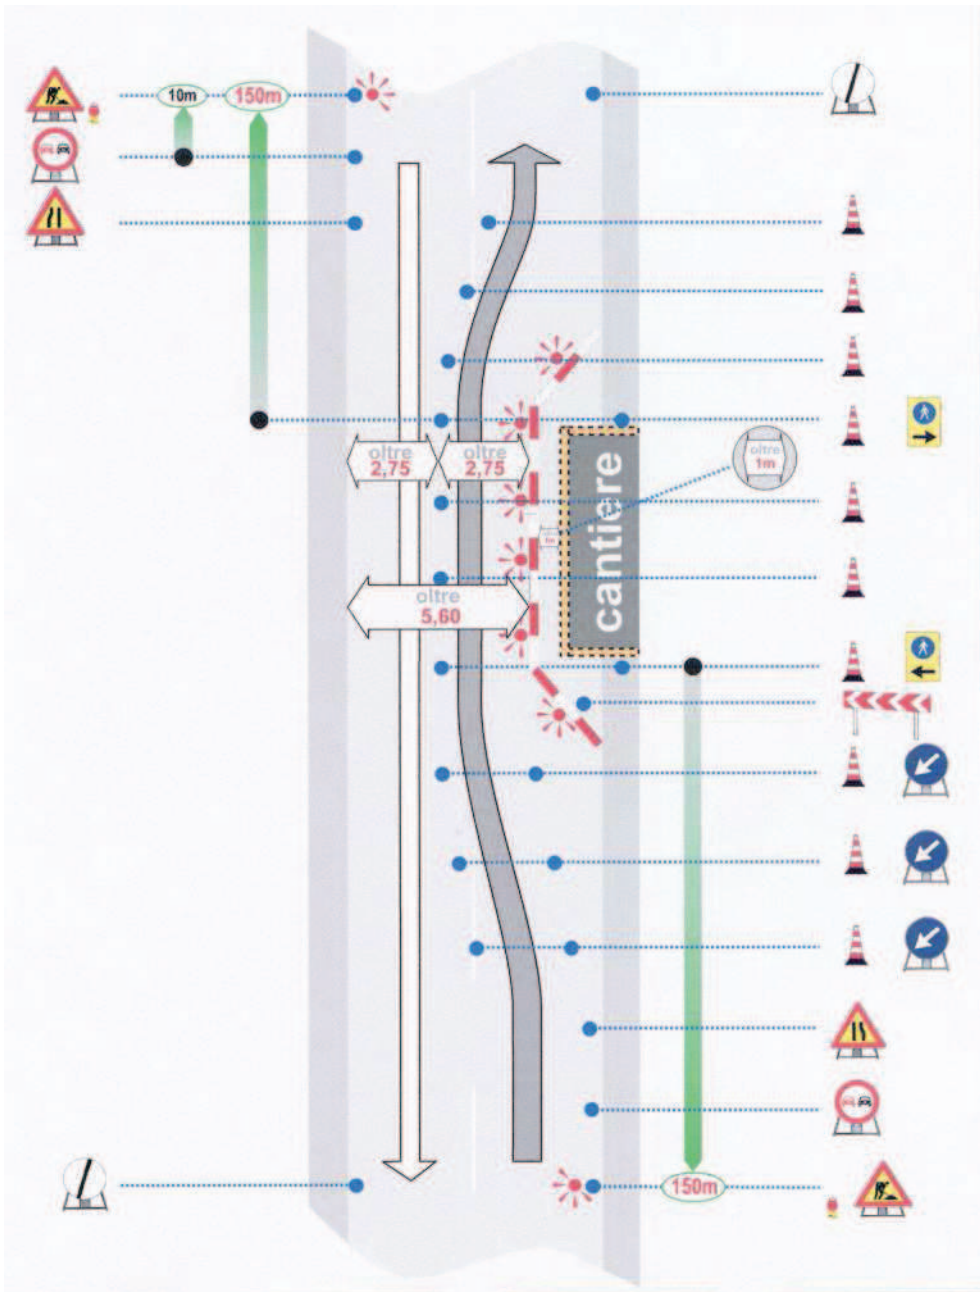

FIGURA 6B – CARREGGIATA LIBERA MAGGIORE DI 5,60 M E LARGHEZZA CORSIA LIBERA DAI LAVORI MAGGIORE DI 2,75 M CON PASSAGGI PROTETTI PER PEDONI. FIGURA OPERATIVA.
- FIGURA 6B CARREGGIATA LIBERA MAGGIORE DI 5,60 M E LARGHEZZA CORSIA LIBERA DAI LAVORI MAGGIORE DI 2,75 M CON PASSAGGI PROTETTI PER PEDONI. FIGURA OPERATIVA.